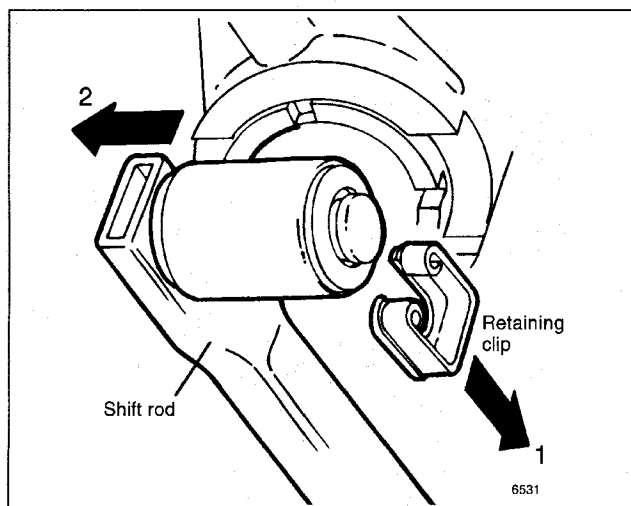

Fig. 3. Pull off shift rod retaining clip in direction of arrow (1); disengage shift rod from gearshift lever (2).
8. Working below transmission, disconnect shift rod from gearshift lever. Note washers on either side of shift rod end. See Fig. 3.